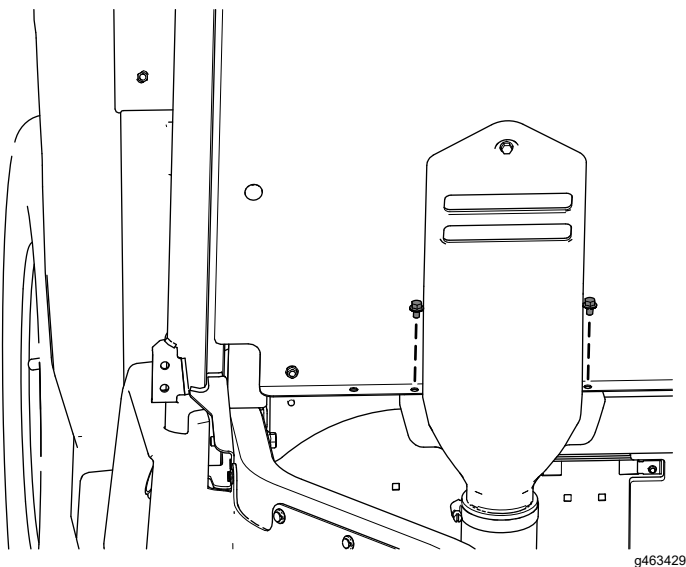

Figure 29
- G. Secure the bottom of the CVT-intake hood to the seat panel using the previously-removed 2 flange-head bolts (1/4 x 3/8 inch) as shown in Figure 29.